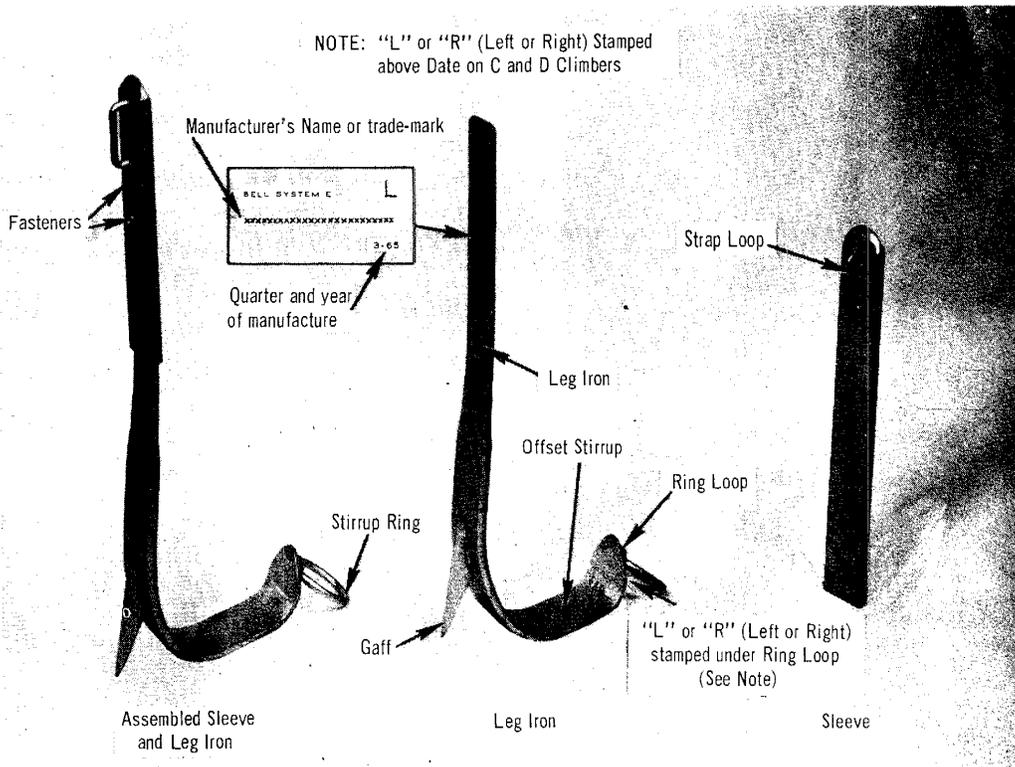
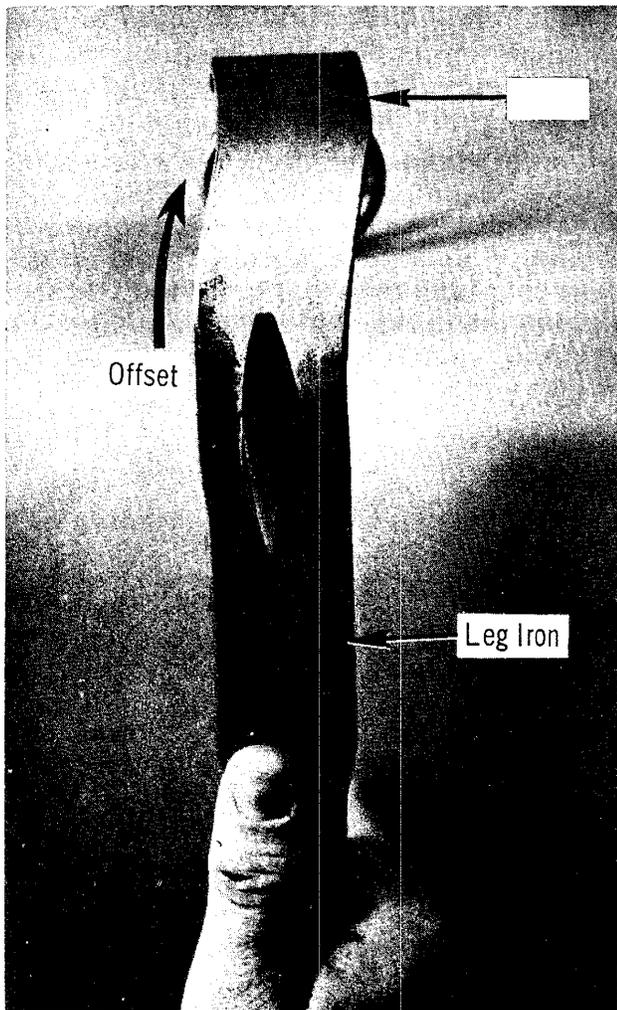

Fig. 1 - E Climber
Fig. 2 — Stirrup Offset "Right"
superseded by the D Climber in which the stirrup was widened 1/4 inch to give more room for overshoes and the gaff raised 1/8 inch for better ground clearance when stepping off a pole. The E Climber, Fig. 1, which supersedes the D
2.02 Adjustable climbers have offset stirrups, therefore, they are made for the right and left foot and are marked "R" or "L" on the appropriate climber as indicated in Fig. 1. These climbers can be identified as right or left by remembering that the offset of the stirrup is toward the front of foot. Another method is to hold the climber with gaff toward you and pointing up, then noting which direction the stirrup is offset. If the offset is to right, it is a right climber as in Fig. 2; if the offset is to left, it is a left climber.